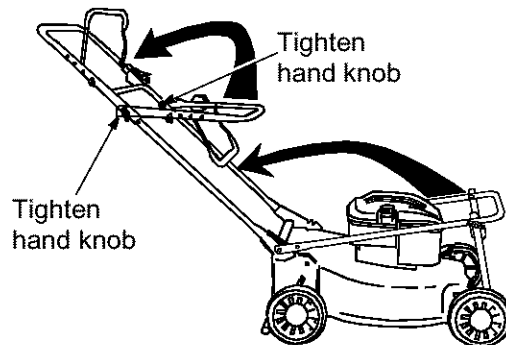

Figure 2
- Tighten the hand knobs securing upper handle to lower handle (carriage bolts must be seated properly into the handle). See Figure 2.